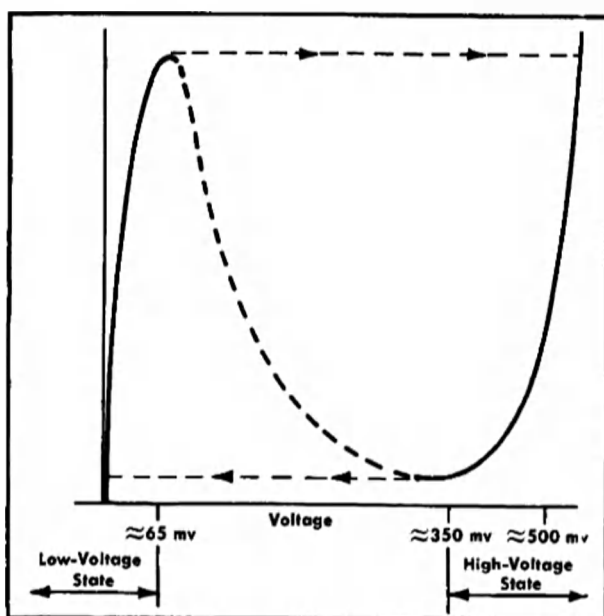

Fig. 3-2. Tunnel diode characteristics.
Tunnel diode D45 is biased to its low voltage state by current through R32, R33, R45, and R42. If the comparator stages are unbalanced in such a manner as to cause Q34 to conduct, an additional current flows through D45. This additional current biases D45 to its high voltage state (see Fig. 3-2 for tunnel diode characteristic curve).
**Circuit Operation SN 101-6739.** In operation, V24A and V24B form a push-pull amplifier which drives a push-pull input, single-ended output amplifier consisting of Q34 and Q44. Tunnel diode D45 is biased at its low-voltage state (see Fig. 3-2 for trigger tunnel-diode curve) by current flow through the voltage divider consisting of R44, R45, R47, and R48. When the desired slope of the triggering signal selected arrives at the grids of V24, V24B and Q44 are biased into conduction. The conduction of Q44 increases the current flow through D45, and D45 switches to its high-voltage state. The sudden voltage change across D45 as it switches to its high-voltage state produces a uniform fast-rising trigger pulse which is used to trigger the main time base (B) sweep generator.